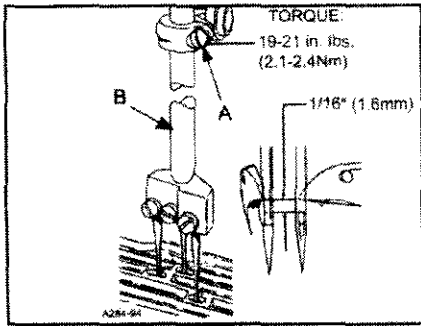

FIG.9
screw(A, Fig.9) and move needle bar (B) as required to attain dimension.